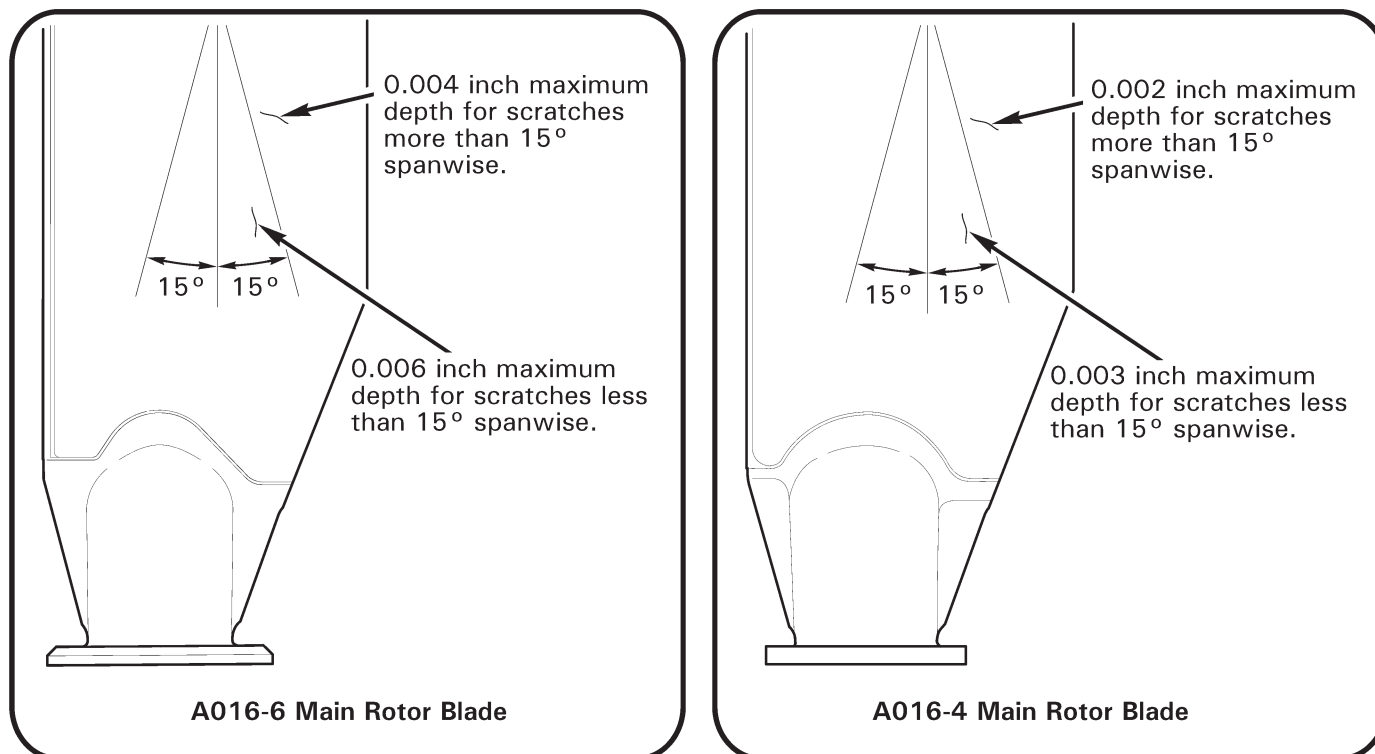

FIGURE 26-11 SCRATCH LIMITS
1. Refer to Figure 26-11. Damage may not exceed the following limits after rework: